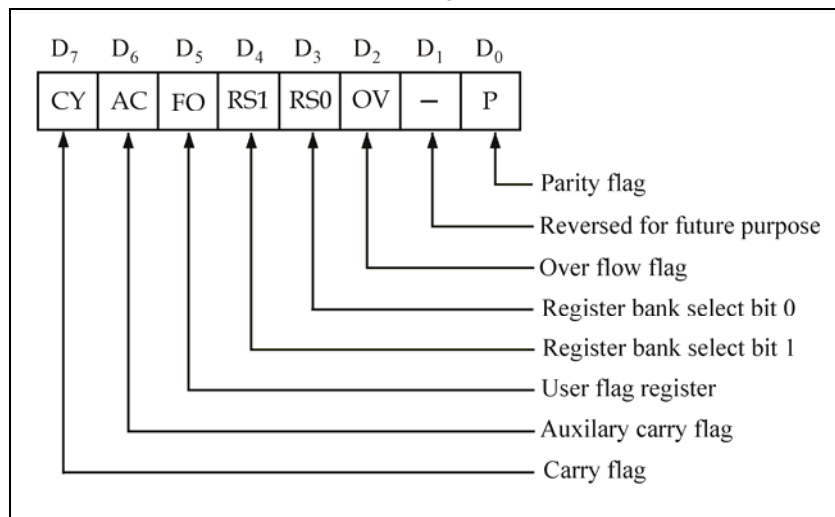

Fig.1.7.3
- Fig. 1.7.3 shows the bit pattern of the program status word.